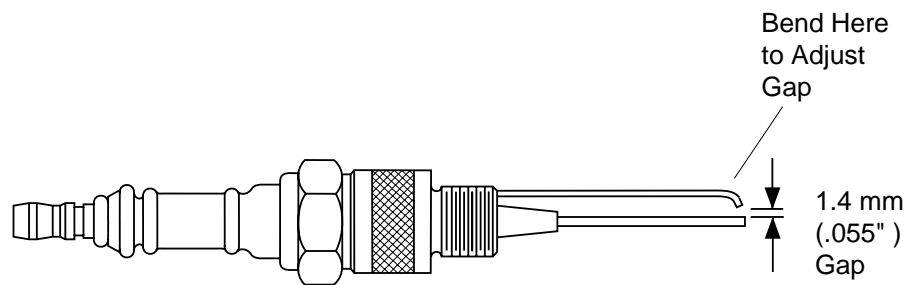

Figure 8 - Spark Plug Gap
14. Place fine grade sandpaper (600 grit) on flat surface. Sand rotor lightly in "figure 8" motion four times (see Figure 16).